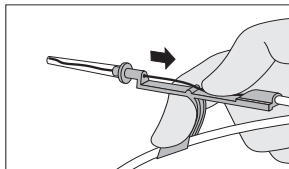

Figure 1
- Using thumb, retract "J" (refer to Figure 1).